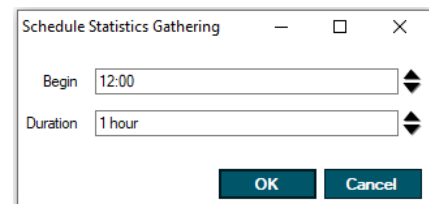

Figure 83 - “Schedule Statistics Gathering” window
*“Schedule” button*: Click this button to schedule a time at which statistics will be gathered. When clicked, a new window will open prompting for a begin time and duration. Refer to Figure 83.